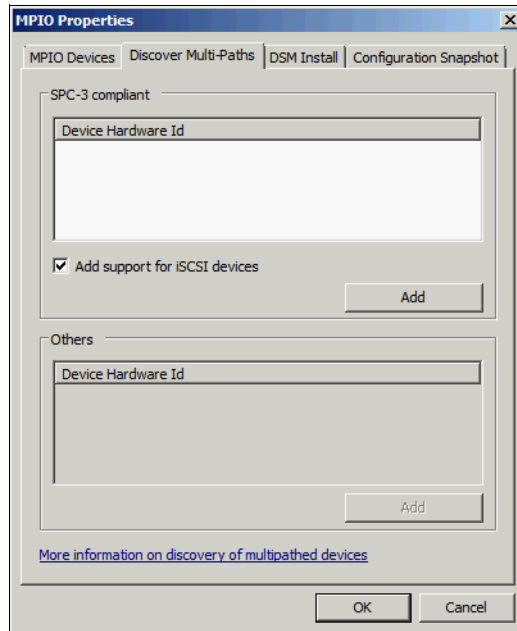

Figure 12-15 Enable iSCSI MPIO
2. Click **Start** → **Administrative Tools** → **MPIO**, click the **Discover Multi-Paths** tab, and select the **Add support for iSCSI devices** check box (Figure 12-15).